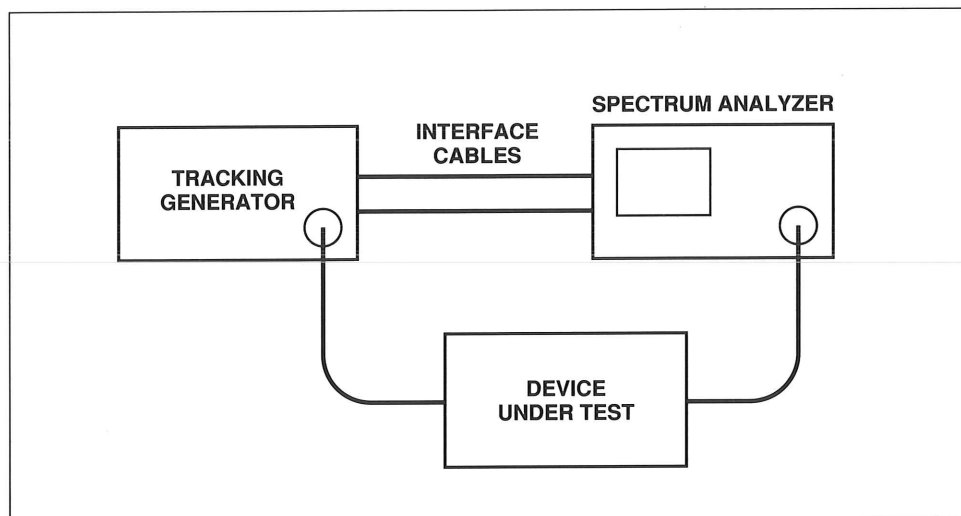

Figure 29. Tracking generator/spectrum analyzer test setup.
A tracking generator (TG) is a signal generator whose output frequency is synchronized to, or tracks with (hence “tracking generator”), the frequency being analyzed by the spectrum analyzer at any point in time. When used with a spectrum analyzer, a tracking generator allows the frequency response of filters, amplifiers, couplers, etc. to be measured over a very wide dynamic range. Furthermore, because the signal being analyzed is always centered in the RBW filter, the resulting display is essentially independent of the filter shape or bandwidth. Measurements are performed by connecting the output of the tracking generator to the input of the device being tested, and monitoring the output of the device with the spectrum analyzer. Figure 29